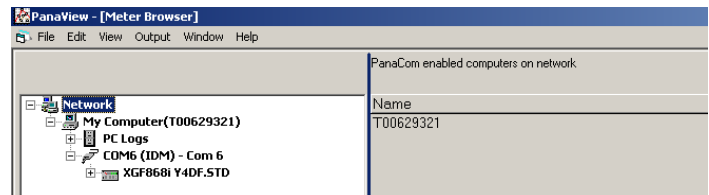

Figure 3: Text display window
3. Using the window menu, arrange the open windows in the desired format. For this discussion, **Figure 3** below shows the *text display* window in its maximized (full-screen) size.
**NOTE:** **Figure 3** above has been compressed both vertically and horizontally for improved clarity.
5. Before actual data values can be displayed in the text pane, activate one of the following data collection modes (refer to **Figure 3** on page 24):